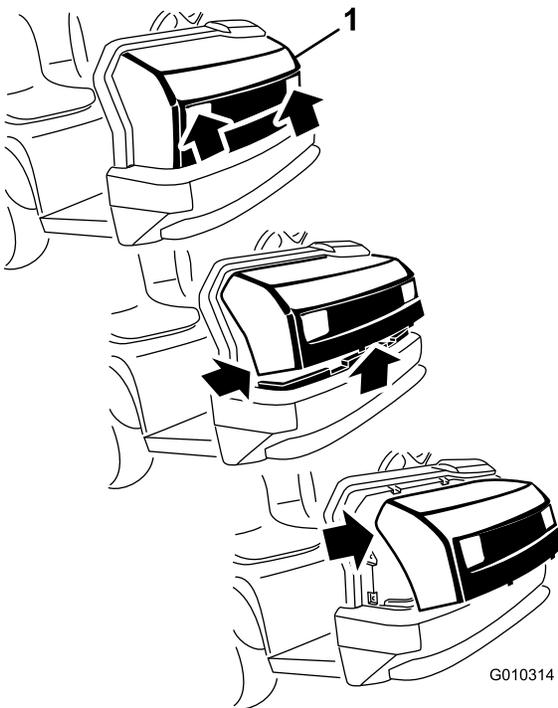

Figure 38
1. While grasping the hood in the headlight openings, lift up the hood to release the lower mounting tabs from the frame slots (Figure 38).
2. Pivot the bottom of the hood upward until the top mounting tabs can be pulled from the frame slots (Figure 38).
3. Pivot the top of the hood forward, and unplug the wire connectors from the head lights (Figure 38).